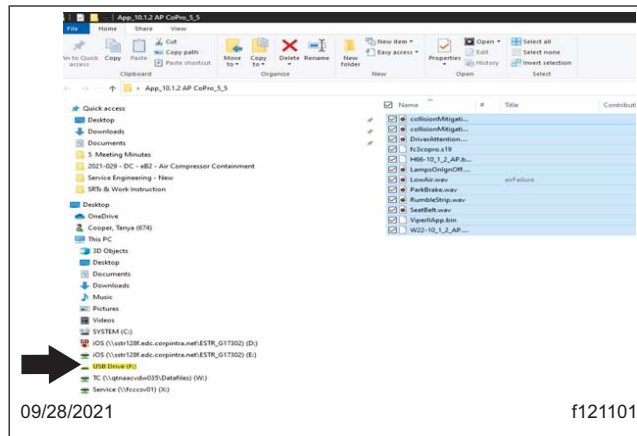

Fig. 11, Pasting Copied Files to the Flash Drive
11. Navigate to the drive noted in step 2 to access the flash drive, then select 'Paste.' See Fig. 11.